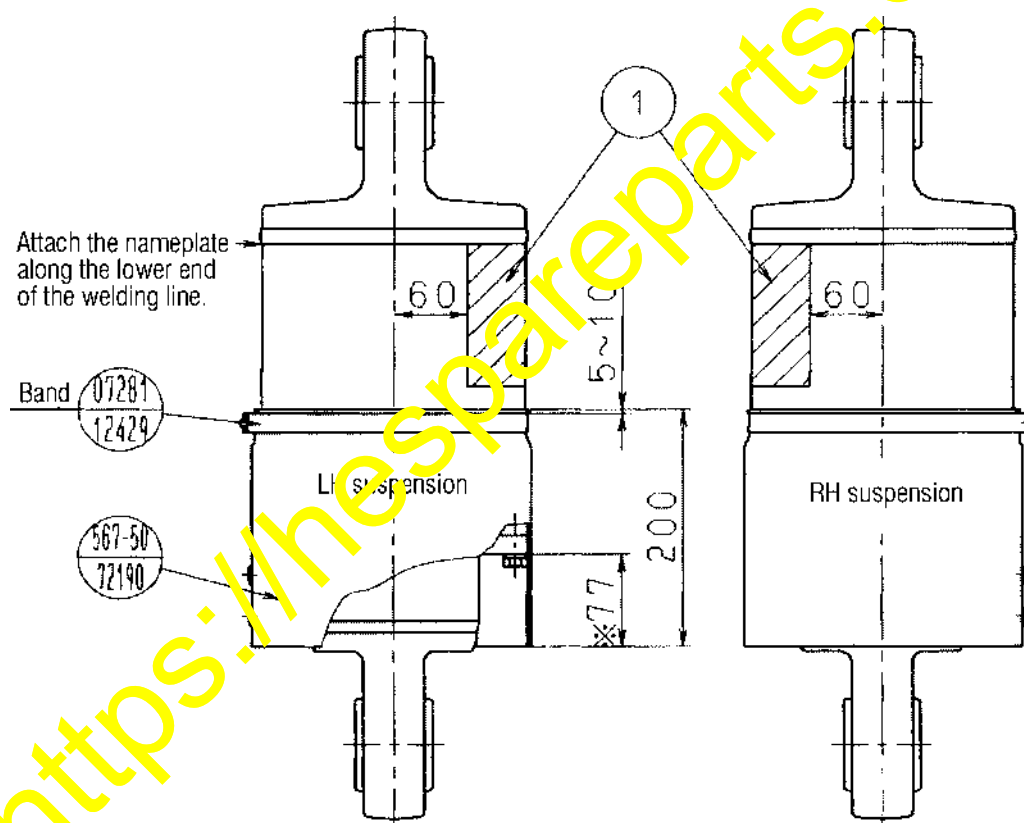

Fig. 1 When the suspensions are viewed from the rear side of the HM400-1 vehicle body
(1) HM400-1 (Refer to Fig. 1.)
- In case of a vehicle on which the larger sized suspension nameplates (①) for domestic use is being attached, since a portion of the nameplate may possibly be hidden by the mud guard, order smaller suspension nameplates (refer to Section 2 “List of parts”) and replace the nameplates as per the dimensional instructions given in the drawing below.